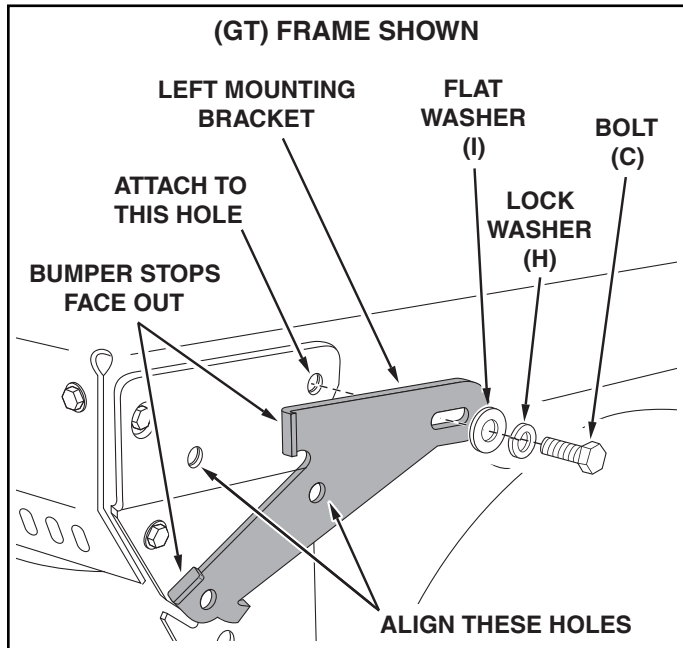

FIGURE 3
STEP 4: (SEE FIGURE 3)
- Attach left mounting bracket to hole shown in left side of tractor frame using bolt (C), lock washer (H) and flat washer (I). Align middle hole in bracket with empty hole in tractor frame and tighten bolt (C) to hold bracket in place. Repeat for right mounting bracket.